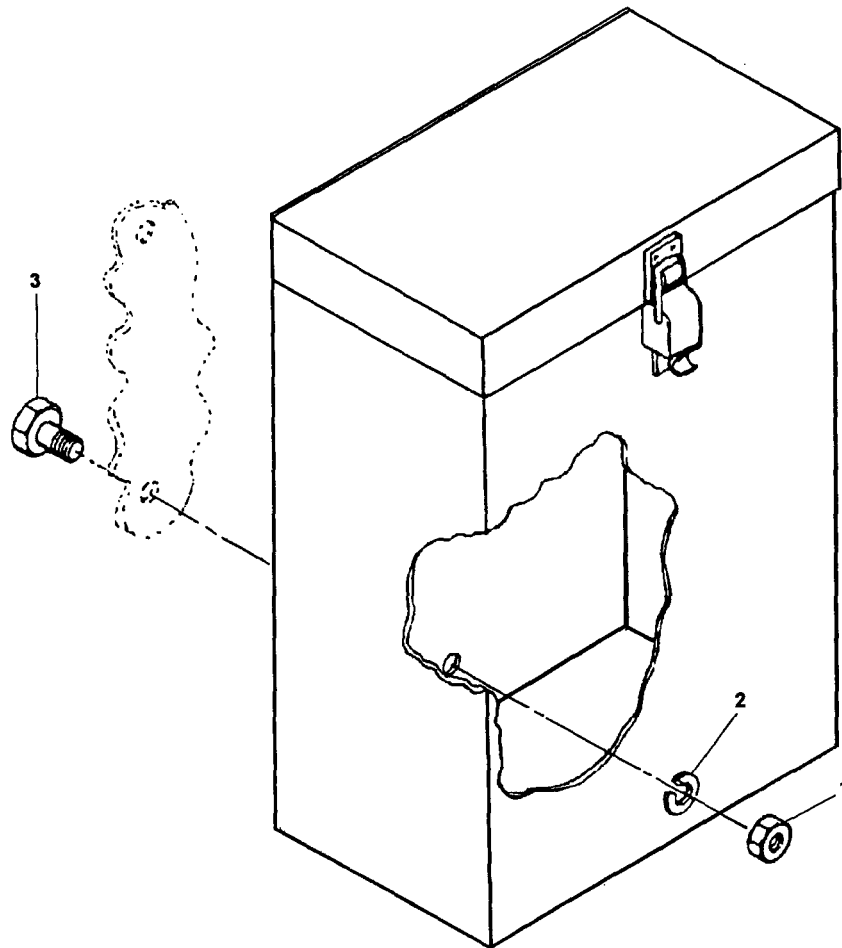

Figure 4-52. Tool Stowage Box
- a. Removal. Remove the hex nuts (1, Figure 4-52), lockwashers (2) and capscrews (3) to remove the tool box.
- (1) Inspect the tool box for damaged hinge or fastener, dents, corrosion, and deterioration of finish.
- (2) Clean the tool box with an approved solvent and dry thoroughly.
- c. Installation. Install the tool box with capscrews (3, Figure 4-52), lockwashers (2), and hex nuts (1).